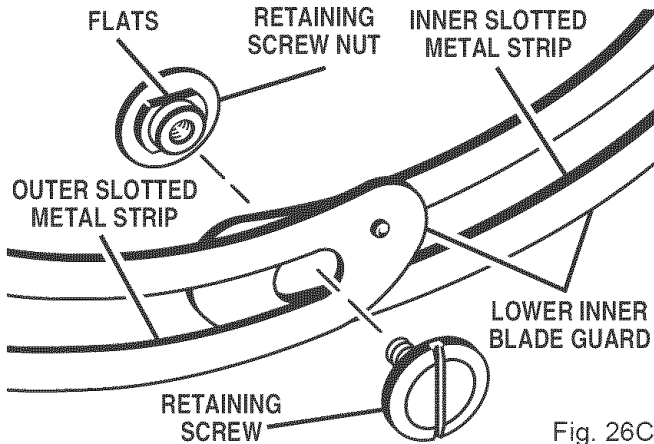

Fig. 26C
- Replace the retaining screw and nut at the bottom of the lower inner blade guard. See Figure 26C.